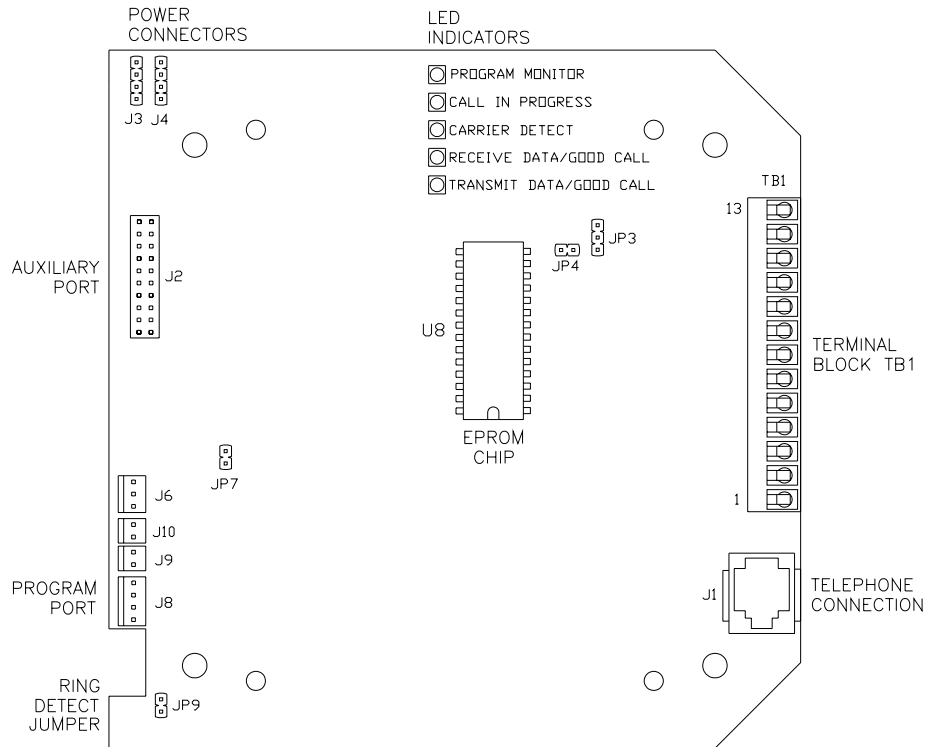

Figure 3-6.
Ring Detect allows the IMU-II/s to answer incoming calls from the central computer system. This is accomplished by either installing or removing the small black shorting jumper from JP9. To determine the exact location of JP9, reference Figure 3-6.
2. Connect the plug from the lithium battery pack to either battery connector, J3 or J4, on the IMU-II/s board. Figure 3-6 shows the exact location of the battery connectors.
1. Connect the Serial Interface Cable to the IMU-II/s board at J8. Reference Figure 3-6 for the exact location of the connector.